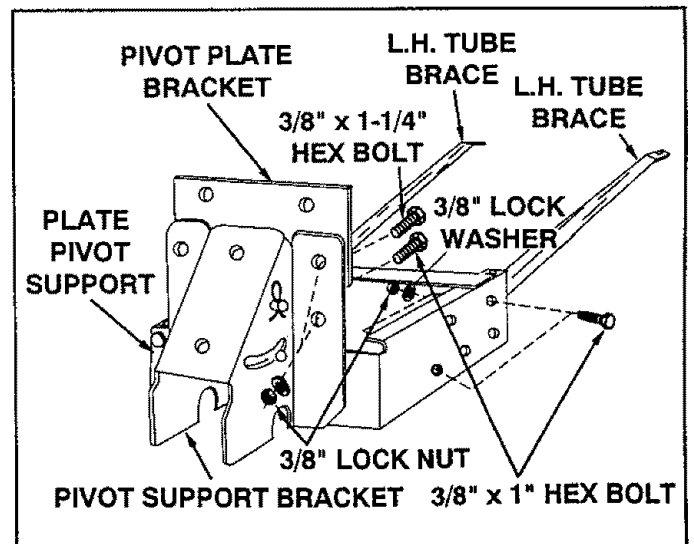

FIGURE 4
- Using the bottom hole on each side, attach the pivot support bracket to outside of plate pivot support using two 3/8" x 1" hex bolts, lock washers and lock nuts. See figure 4.
- Using the top hole on each side, assemble the pivot plate bracket to the inside of the plate pivot support using two 3/8" x 1-1/4" hex bolts, lock washers and lock nuts. See figure 4.
- Attach the left and right hand tube braces to the left and right hand frame pivot supports using four 3/8" x 1" hex bolts, lock washers and lock nuts. **Do not tighten at this time.** See figure 4.